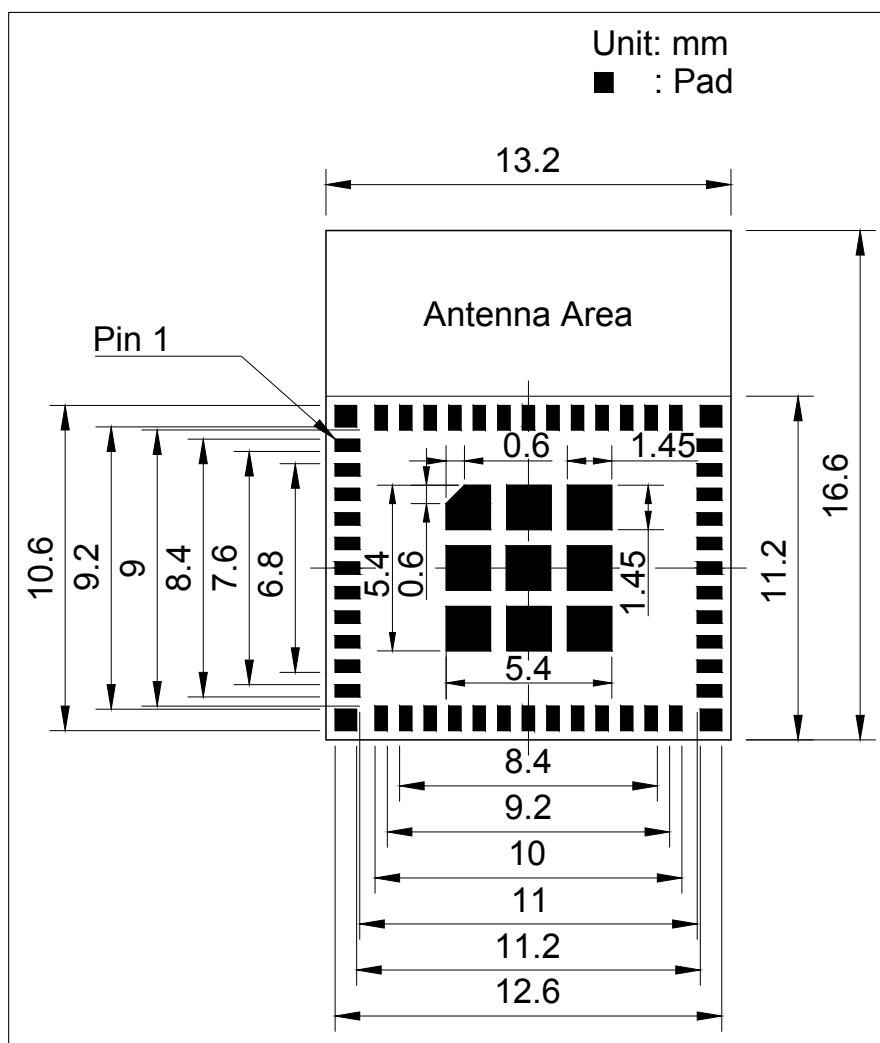
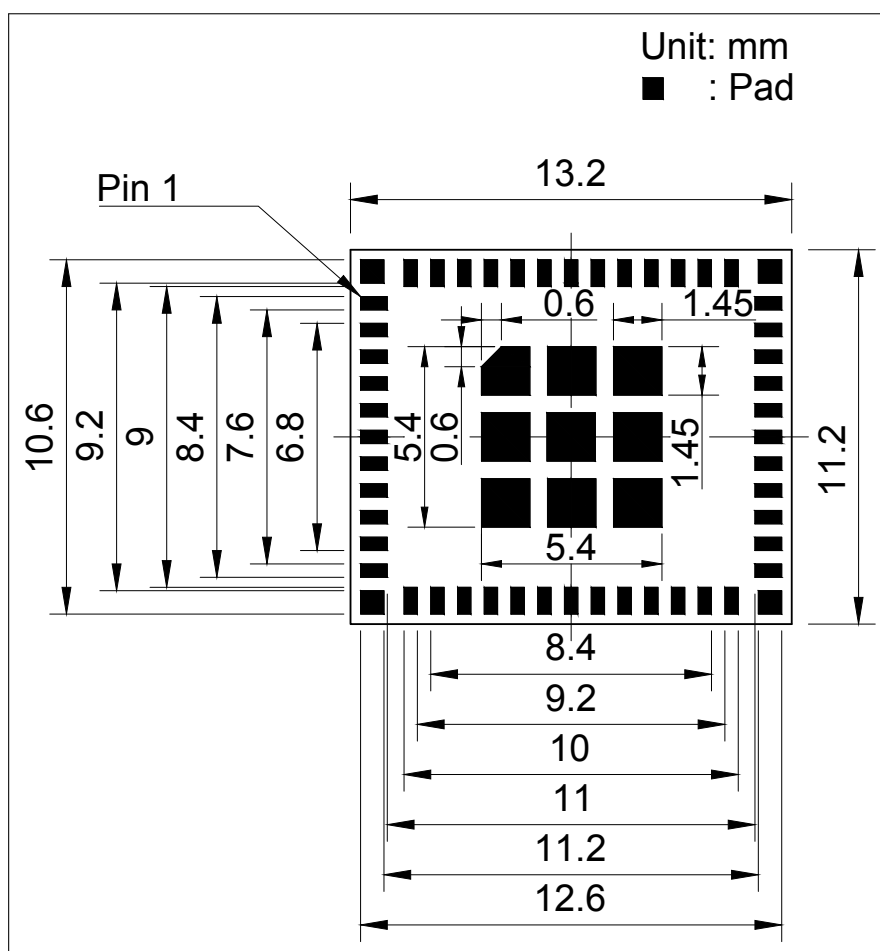

Figure 13: ESP32-PICO-MINI-02 Recommended PCB Land Pattern
Figure 14: ESP32-PICO-MINI-02U Recommended PCB Land Pattern
- Figures for recommended PCB land patterns with all the dimensions needed for PCB design. See Figure 13 *ESP32-PICO-MINI-02 Recommended PCB Land Pattern* and Figure 14 *ESP32-PICO-MINI-02U Recommended PCB Land Pattern*.
- Source files of recommended PCB land patterns to measure dimensions not covered in Figure 13 and Figure 14. You can view the source files for ESP32-PICO-MINI-02 and ESP32-PICO-MINI-02U with Autodesk Viewer.